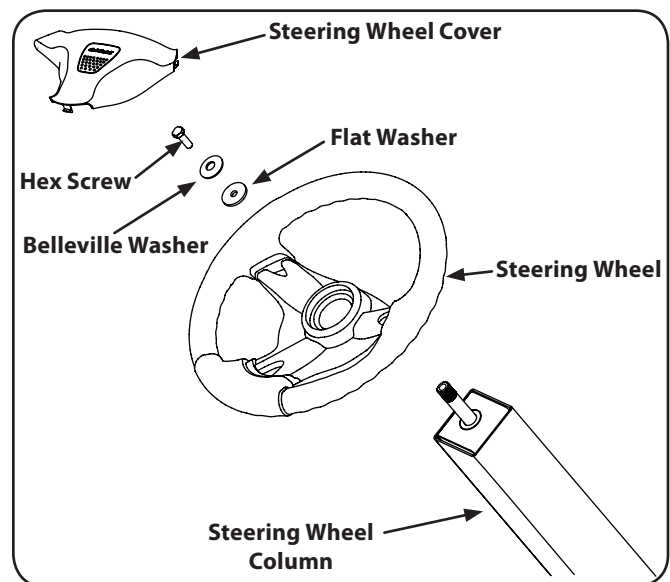

Figure 3-5
3. Place the flat washer and belleville washer over the steering wheel and secure with the hex screw. See Fig. 3-5.